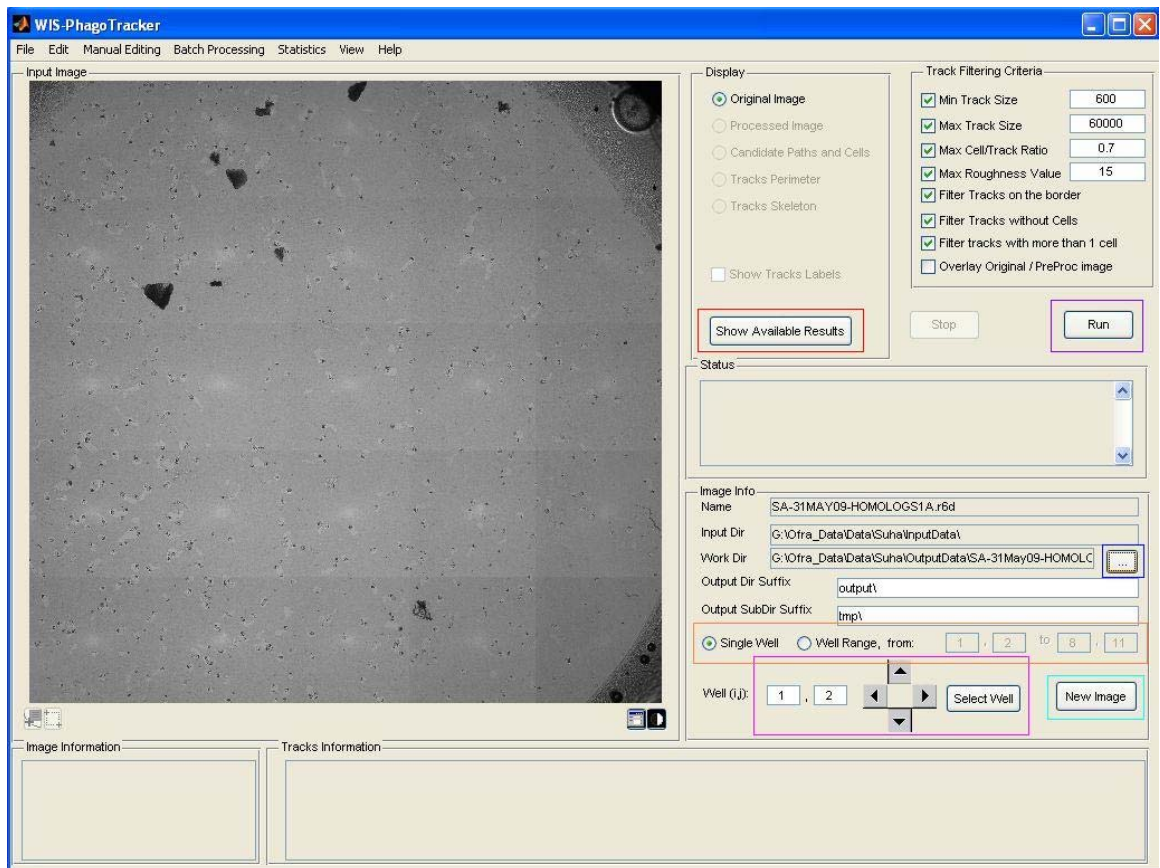

Figure 1: WIS-PhagoTracer Main Window
2. To **load a plate**, click the *New Image* button and select the image for analysis in the dialog opened. The Image will be shown in the *Input Image* panel. Its file name and path will appear In the *Image Info* panel (see Figure 1).
3. **Set Work Directory.** The default location for single files is the location of the input file. For whole plates, where huge files are used, the default is to use another location. For example you can store your plates in d:\data\inputData and set work directory to d:\data\outputData*<Plate_Name>*. Use the "..." button next to the *WorkDir* field to select a work directory. Shown in blue in Figure 1.